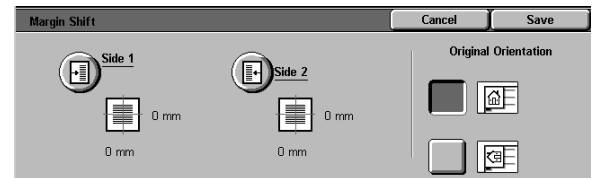

Figure 22: Margin Shift screen
- 1 Touch the **Margin Shift** button on the Added Features tab to display the Margin Shift screen as illustrated in Figure 22.